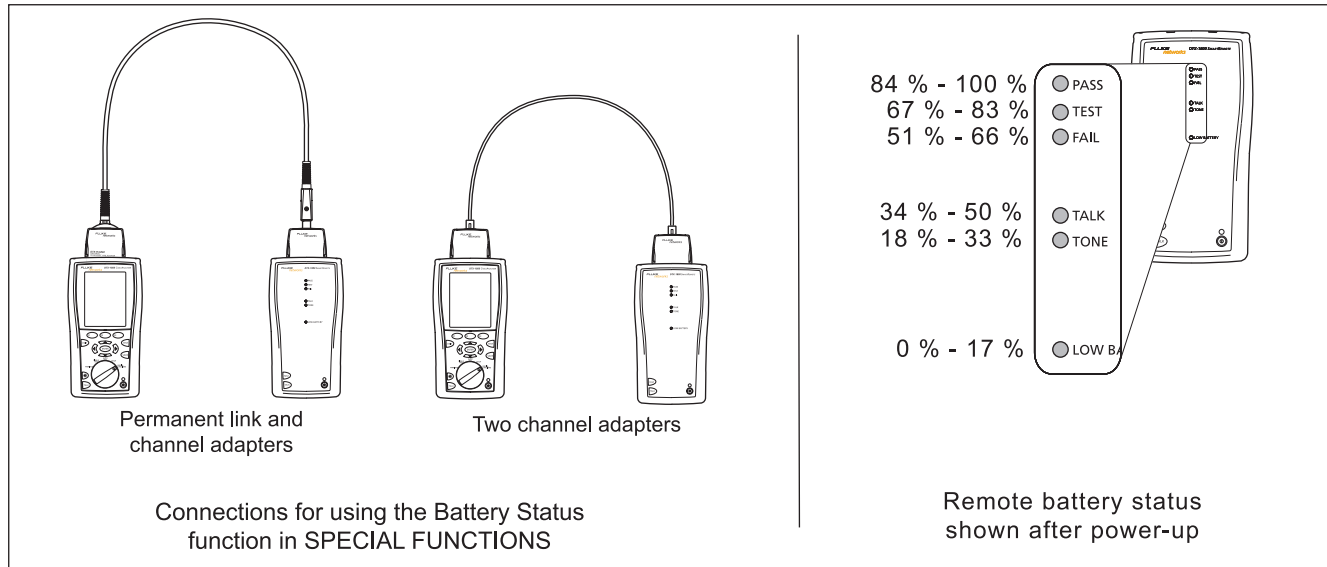

Figure 1-5. Checking the Battery Status
The battery status icon () near the upper-right corner of the tester's main screens shows the battery's charge level. The smart remote's LEDs show the smart remote's battery status at the end of the power-up cycle, as shown in Figure 1-5.
- 2 Connect the tester and smart remote as shown in Figure 1-5. You may also connect the testers through a link.